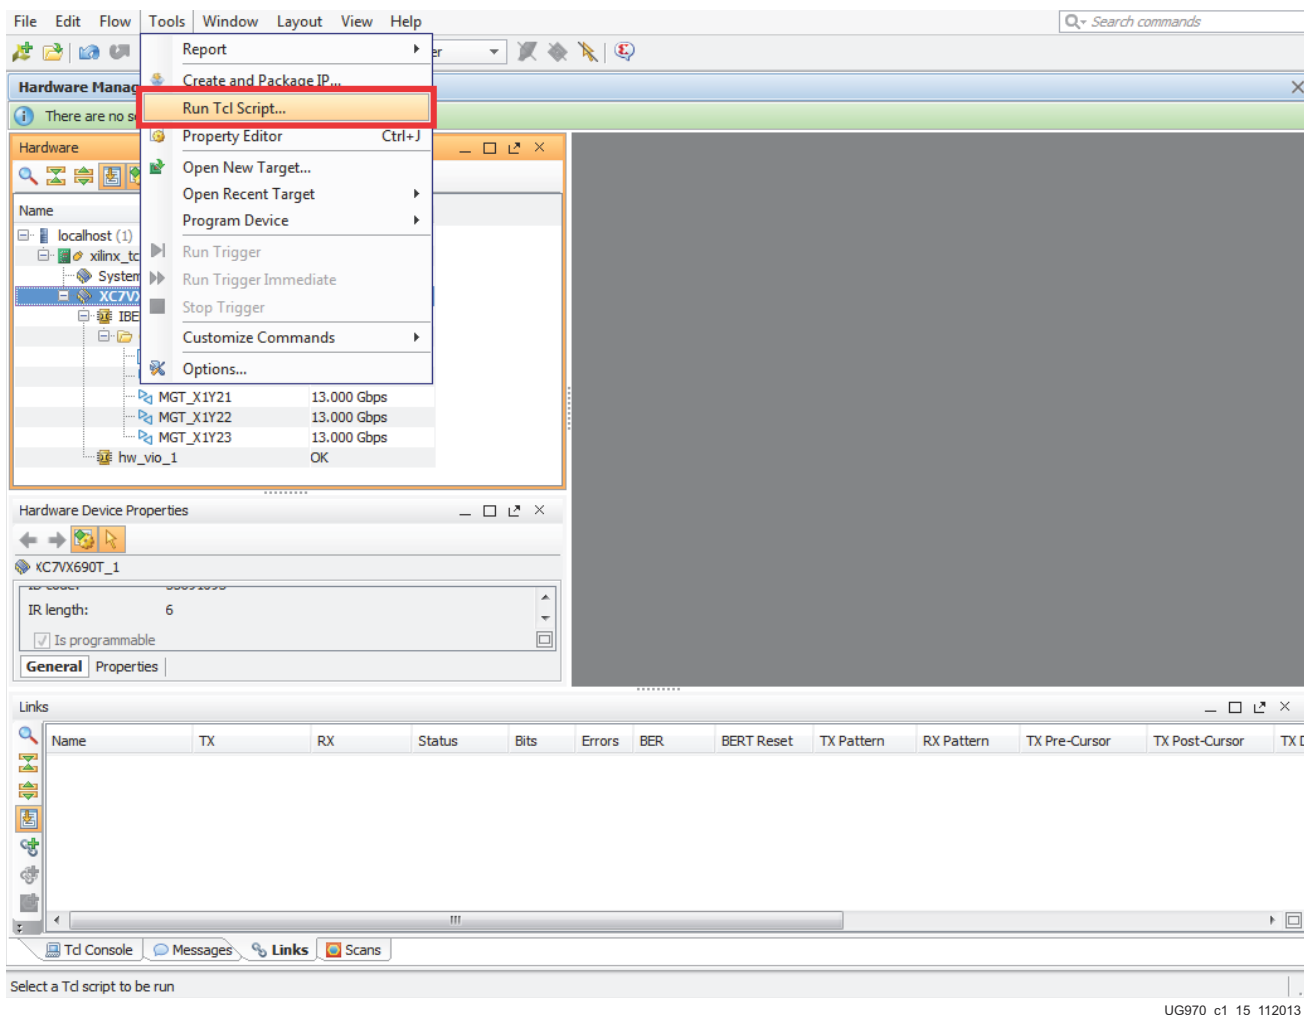

Figure 1-15: Run Tcl Script
- The Vivado tool reports that the XC7VX690T is programmed and shows the SuperClock-2 VIO core and the IBERT core. To configure the SuperClock-2 module, select **Tools > Run Tcl Script** (Figure 1-15). In the following Run Script window, navigate to the `setup_scm2_325_00.tcl` script in the extracted files and click **OK**.